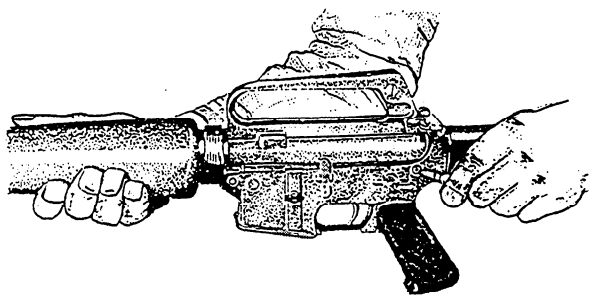
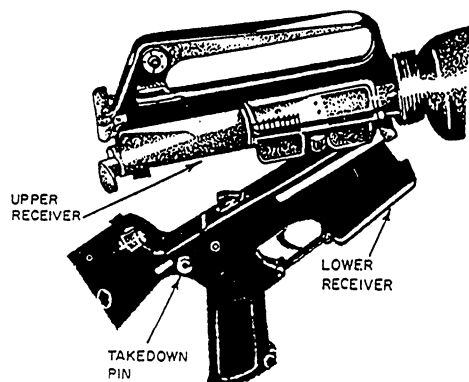

Figure 3-9.—Pressing takedown pin to the right.
Figure 3-10.—Breaking upper receiver away from lower receiver.
2. Turn the weapon on its right side, keeping the muzzle to the left. Press the takedown pin to the right (fig. 3-9) until the upper receiver swings free of the lower receiver (fig. 3-10).